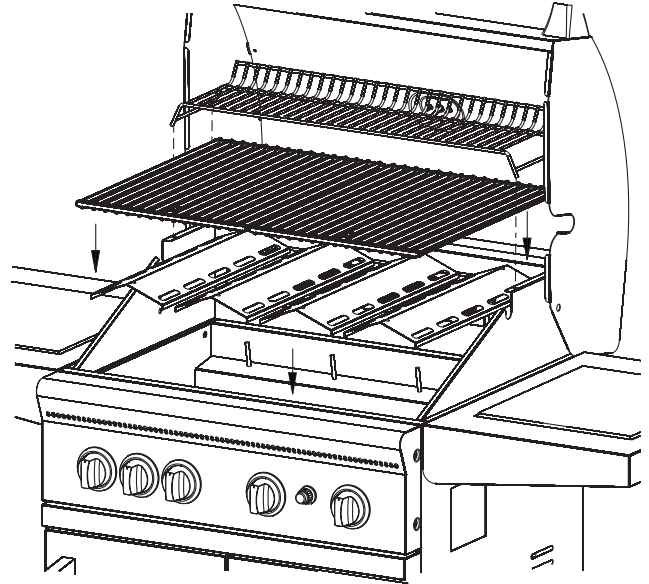

Figure 7
13. Place flame tamers over burners. Pins on burner box fit through holes on flame tamer. **See Figure 7.**
14. Place cooking grids into grill. **See Figure 7.**
15. Place warming rack on top of grill body side walls. **See Figure 7.**